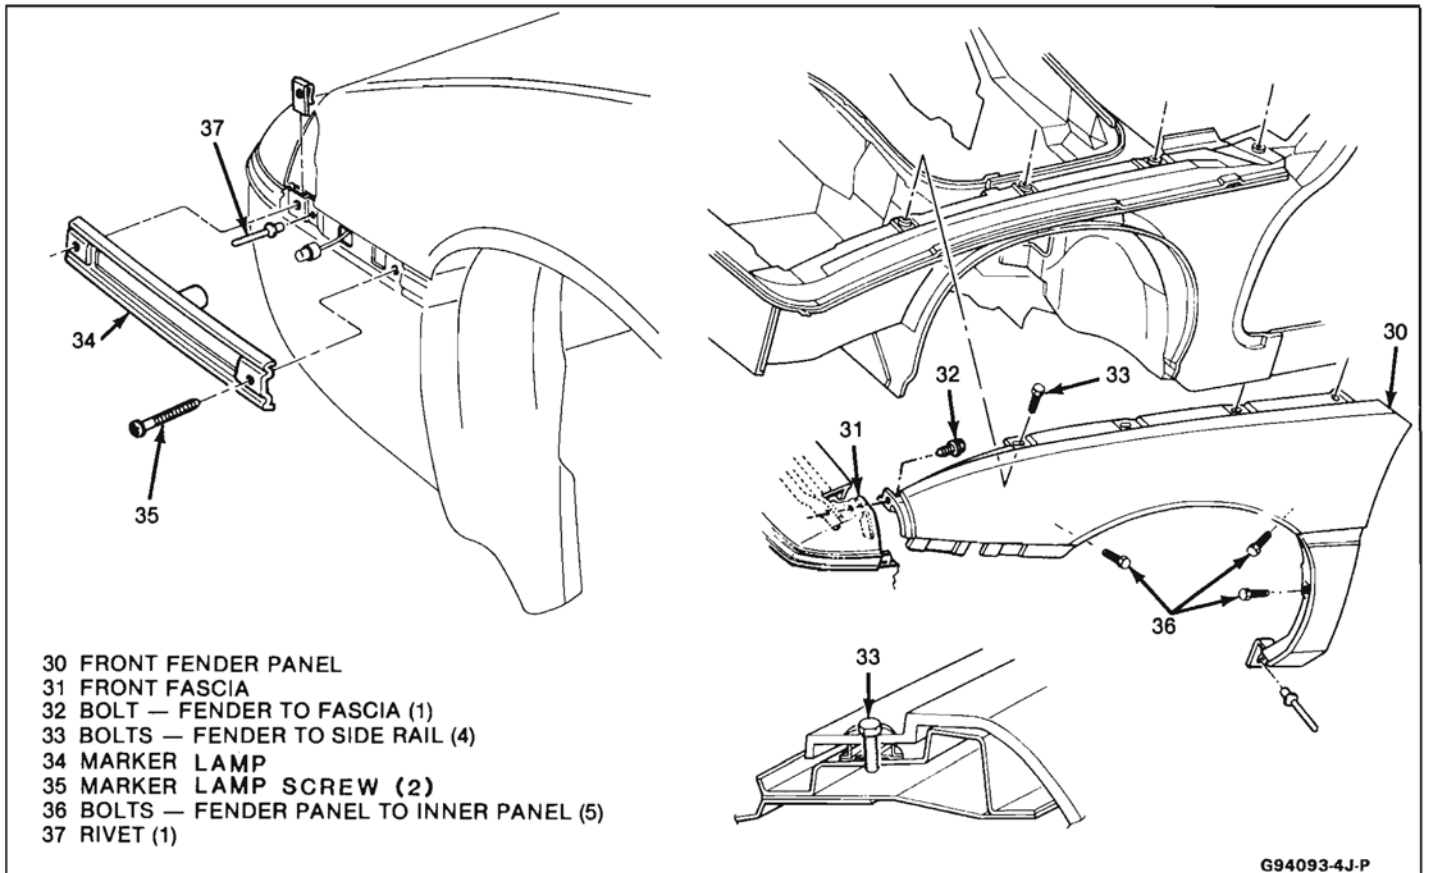

Fig. 7-Front Fender Panel Attachment
↔ Remove or Disconnect (Figure 7)
→← Install or Connect (Figure 7)
1. Six screws at chassis (44)
2. Side marker lamp assemblies (34, Fig. 7)
- Inner wheelwell to fascia (40)
- Fascia support (45)
4. Fascia (31)